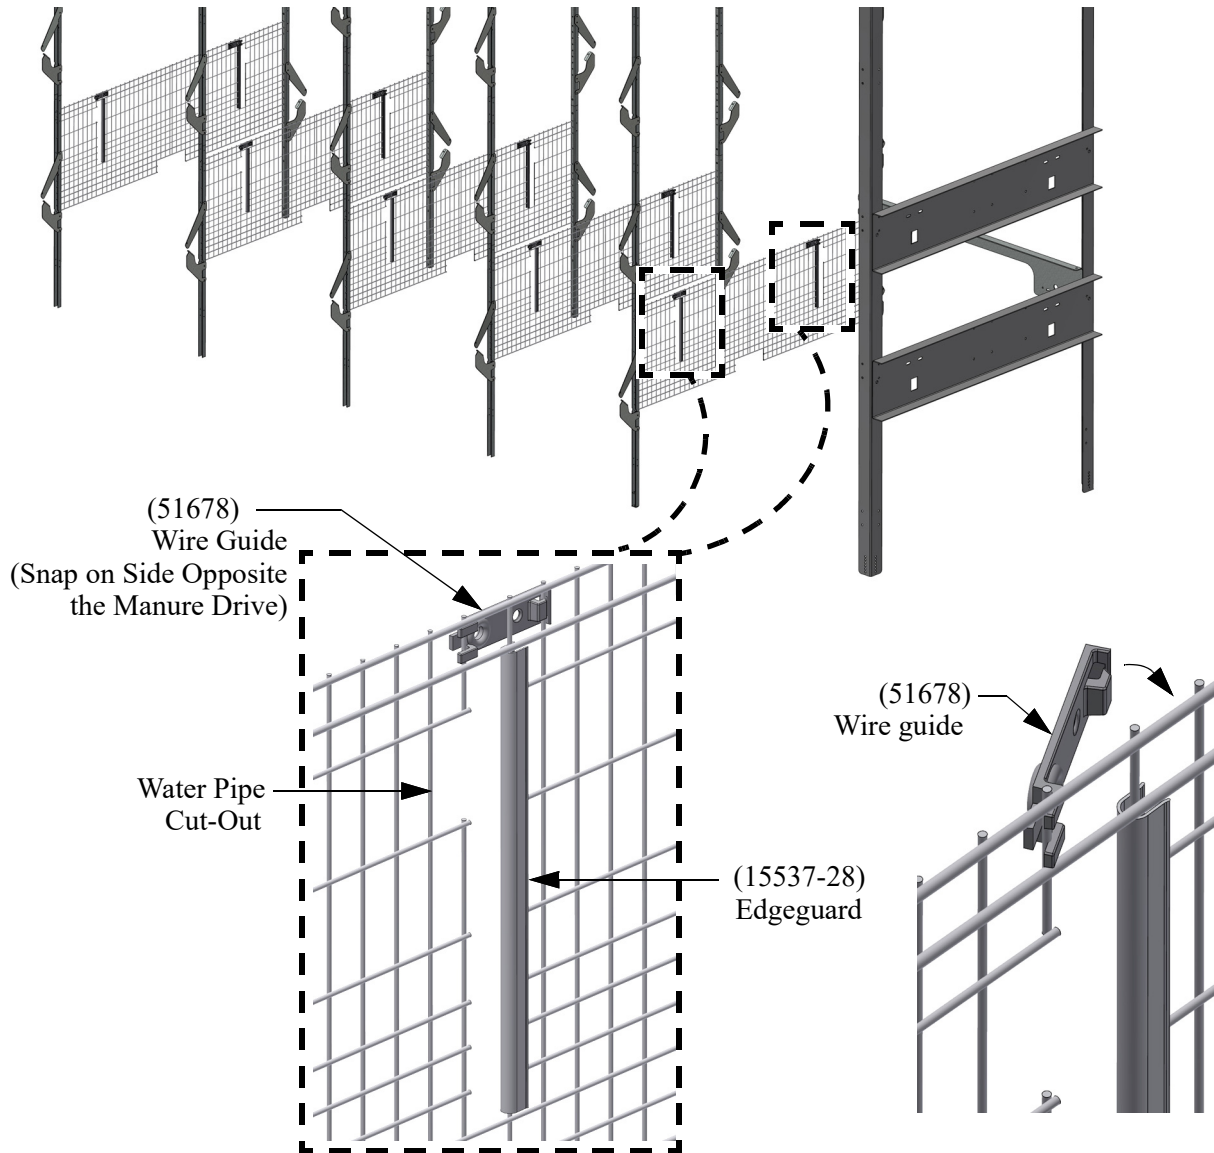

Figure 9.Edgeguard /Wire Guides Installation
1. Install Edgeguard (15537-28) at the Water Pipe openings at each partition only on one side (the side opposite the Water Pipe Cut-out) as shown (See Figure 9.).
2. Install Wire Guides (51678) on each partition as shown. Make sure the Wire Guides are installed on the side of the partition opposite the Manure Drive. The big hole is centered over the slot as shown. (See Figure 9.). Make sure the Edgeguards are pushed on all the way.